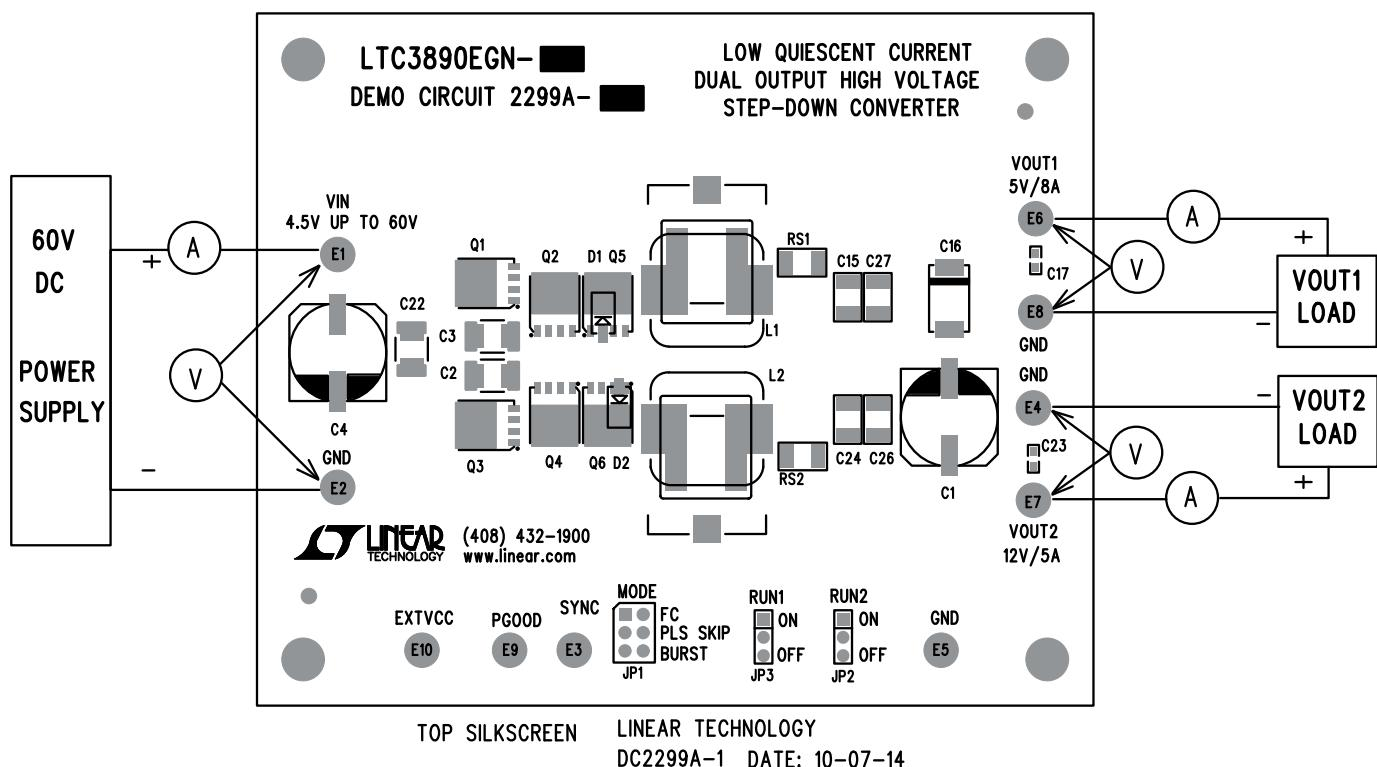

Figure 1. Proper Measurement Equipment Setup
Demonstration circuit 2299A is easy to set up to evaluate the performance of the LTC3890. For proper measurement equipment configuration, set up the circuit according to the diagram in Figure 1. Before proceeding to test, insert shunts into JP3 and JP2 (RUN1, 2) into the OFF position, which connects the RUN pins to ground (GND), and thus, shuts down the outputs. Set jumper JP1 (MODE) into FCM (Forced Counties Mode) position.
1. With the DC2299A set up according to the proper measurement and equipment in Figure 1, apply 20V at  $V_{IN}$ . Measure  $V_{OUT}$ ; it should read 0V. If desired, one can measure the shutdown supply current at this point. The supply current will be approximately  $50\mu A$ , or less, in shutdown.